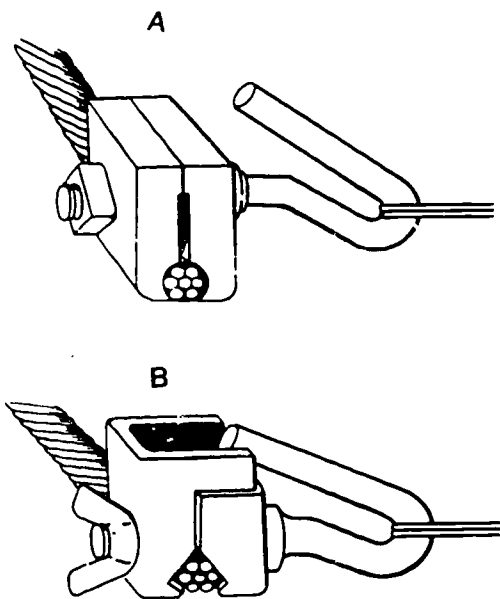

Figure 3-2. Span clamps for lashed cable.
shown in figure 1-10 where the span clamp was used in avoiding a tree. For a closeup view of some typical span clamps, refer to figure 3-2. The uppermost (A) clamp is made from solid metal with a groove for the suspension strand in each half of the clamp. The lower one (B) is made from heavy sheet metal which is stamped and beat into shape.